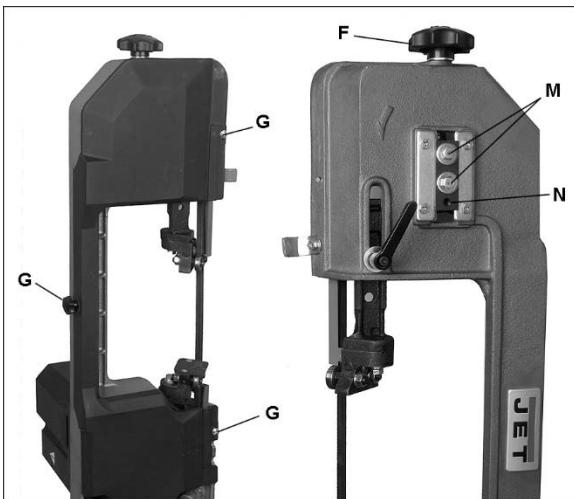

Figure 7-5
4. Loosen bolts (M, Figure 7-5) with 12mm wrench.
5. Turn set screw (N) with 4mm hex wrench, while observing blade tracking on wheel. Turn set screw clockwise to track closer to wheel flange. Turn set screw counterclockwise to track away from wheel flange.
6. Once tracking is set, tighten bolts (M).